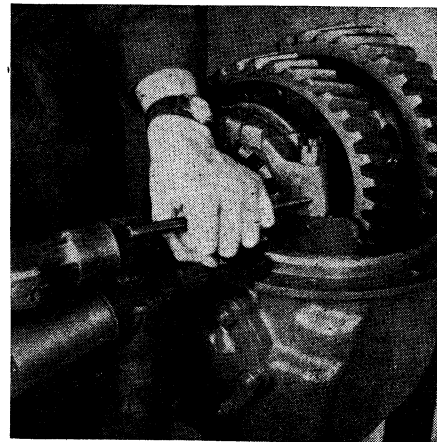

Fig. 5 Marking differential bearing cap and carrier leg to identify for proper reassembly
2. Center-punch one differential carrier leg and bearing cap, Fig. 5, to